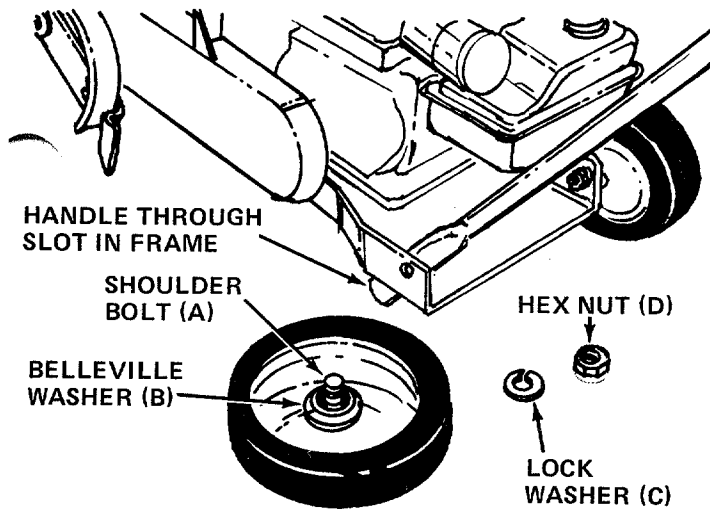

FIGURE 3.
2. Place lower handle into the slots in the rear frame. See figure 3.
3. Line up holes in handle with holes in frame. See figure 3.
4. Secure rear wheels (P) and lower handle (M) to frame with shoulder bolts (A), belleville washers (B) (cupped side of washer against the frame), lock washers (C) and hex nuts (D). See figure 3.